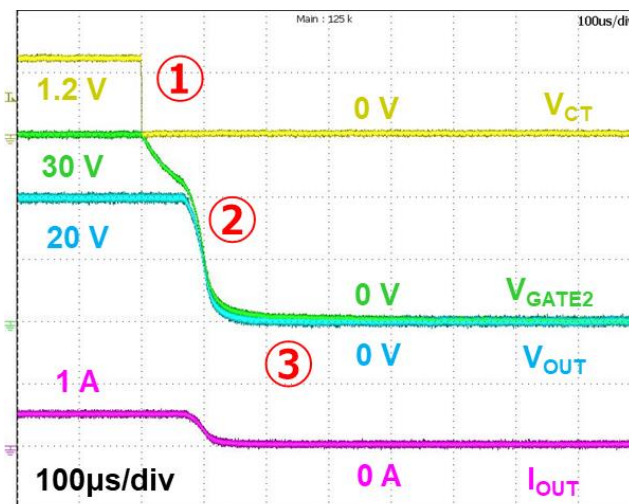

Fig 7.4 Turn-off operation (VGATE2)
Fig 7.4 is the turn-off operation of VGATE2 terminal. If V_{CT} is turned off (①), V_{GATE2} and V_{OUT} will shut down (②). When $V_{GATE2} - V_{OUT}$ falls the gate threshold voltage V_{th} of the external MOSFET, V_{OUT} and I_{OUT} are turned off completely (③).